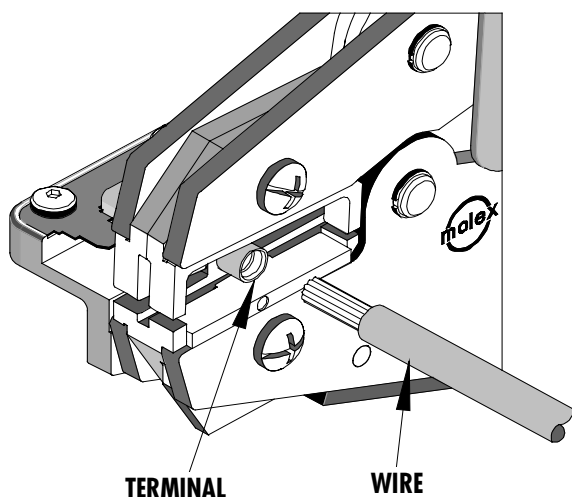

Figure 2
3. Partially close the tool to hold the terminal in place. See Figure 2.
4. Insert the properly stripped wire into the terminal barrel. See Figure 2 and 3. Cycle the tool.